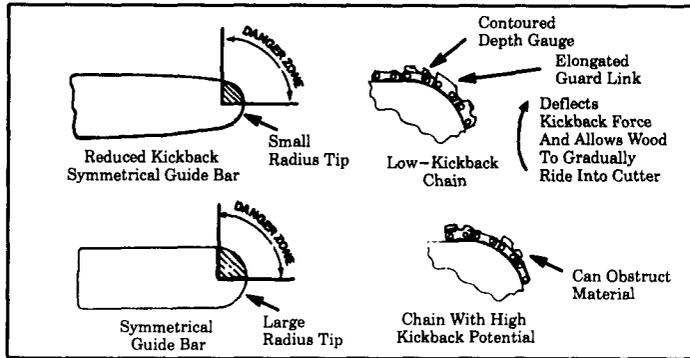

Figure 5
- **Reduced-Kickback Guide Bar,** designed with a small radius tip which reduces the size of the kickback danger zone on the bar tip. Figure 5 . A Reduced-Kickback Guide Bar is one which has been demonstrated to significantly reduce the number and seriousness of kickbacks when tested in accordance with the safety requirements for gasoline powered chain saws as set by ANSI B175.1 - 1991 (American National Standards Institute, Inc., Standard B175.1 - 1991).
- **Low-Kickback Chain,** designed with a contoured depth gauge and guard link which deflect kickback force and allow wood to gradually ride into the cutter. Figure 5 . Low-Kickback Chain is chain which has met kickback performance requirements of ANSI B175.1 (Safety Requirements for Gasoline-Powered Chain Saws) when tested on a representative sample of chain saws below 3.8 cubic inch displacement specified in ANSI B175.1.